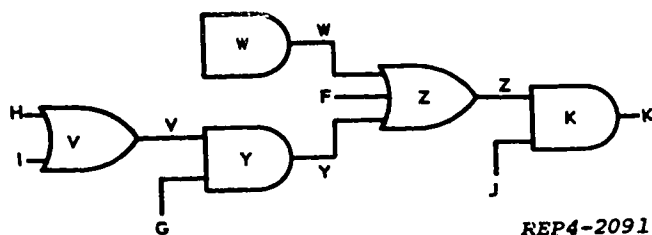

Figure 1-72. Example equation - step 7.
(6) Identify the two inputs to AND-gate Y as G and V, where V represents $(H + I)$.
(7) Develop input V by drawing a two-input OR-gate and labeling the inputs H and I (fig. 1-72).